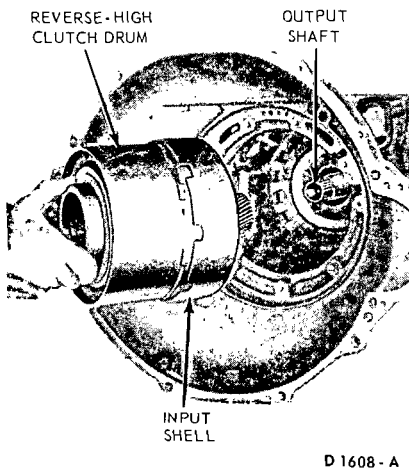

FIG. 35—Removing or Installing Forward Part of Gear Train
12. Remove the forward part of the gear train as an assembly as shown in Fig. 35.